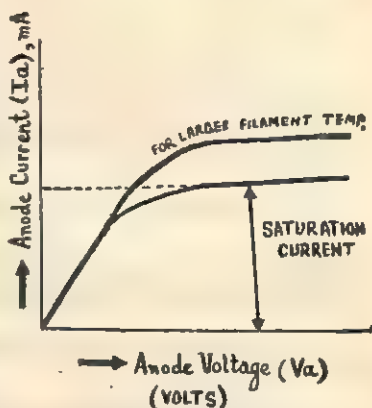

Fig. 12.14.  $V, I$  characteristic of a vacuum diode.
called the "space charge". If the anode potential with respect to the cathode is zero or negative, the electrons remain near the surface of the cathode. But when the anode is maintained at a positive potential w.r.t. the cathode, some of the electrons from the "space charge" reach the anode by passing through the vacuum and thus produce "anode current". The anode current increases with the increasing anode potential and finally reaches a constant value. For further increase in the plate potential the anode current does not increase. This constant current is called the "saturation current" and it is larger for the larger filament heating current as shown in Fig. 12.14.
**Graph.** Plot a graph between  $I_a$  along  $y$ -axis and  $V_a$  along  $x$ -axis for each value of  $I_f$ . Plot all the curves on the same graph with the same scale as shown in Fig. 12.14.
**Precautions.** (1)  $V_a$ ,  $I_a$ , and  $I_f$  should never exceed the maximum values prescribed for the diode valve.
(2) The negative terminal of the milli-ammeter  $mA$  should be connected to the anode.
(3) For one set of observations, to get one curve, the value of  $I_f$  should be kept constant.
(4) Positive of the H.T. "potential divider" should be connected to the anode and the negative to the cathode.